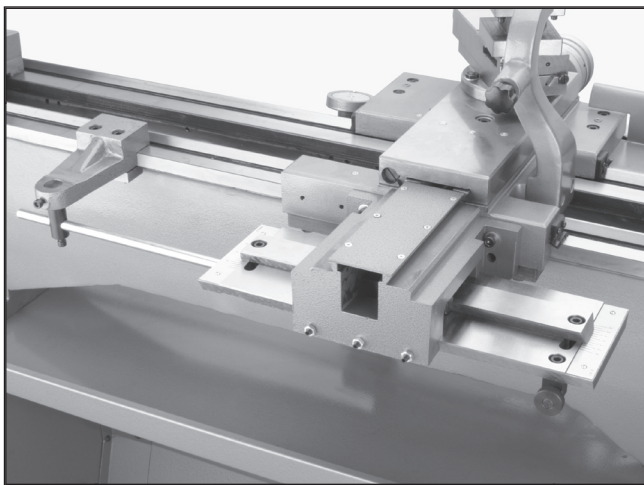

Figure 7. Support Rod and Deadman Assembly.
18. Assemble the top cover plate, removed in **step 6**, using the six philips head screws (**Figure 7**).
20. A support rod attaches the deadman to the main body of the taper attachment. The rod attaches to the deadman by way of a hole in the vertical shaft. Insert the rod into the hole and secure in place by tightening the cap screw. The vertical shaft is inserted into the hole in the deadman and secured in position with a cap screw. Loosen the cap screws. Position the rod as shown in **Figure 7** and secure the rod to the bottom of the main body with the M6 cap screw provided.